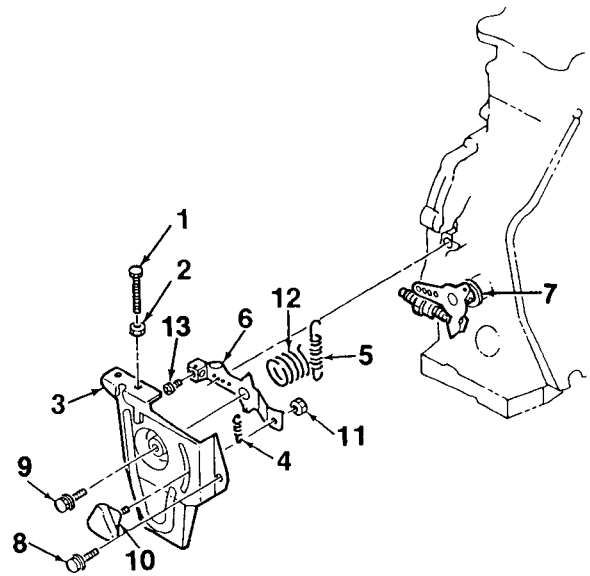

Figure 4-2. Governor Control Installation
1. Install screw (13, Figure 4-2) onto manual control handle (6). Mate handle to regulator bracket assembly (3) and install screw (9), knob (10), nut (11), and spring (12).
2. Mate regulator bracket assembly (3) to cylinder block and install screw (8). Connect springs (4, 5) to handle (6) and lever (7).
3. Install screw (1) and washer (2).